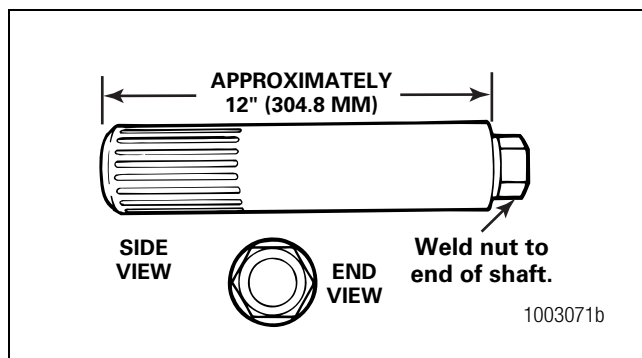

Figure 5.43
1. Make an inspection tool using an axle shaft that matches the spline size of the differential side gear. Cut the shaft to approximately 12-inches (304.8 mm). Weld a nut onto the end of the shaft. Figure 5.43.